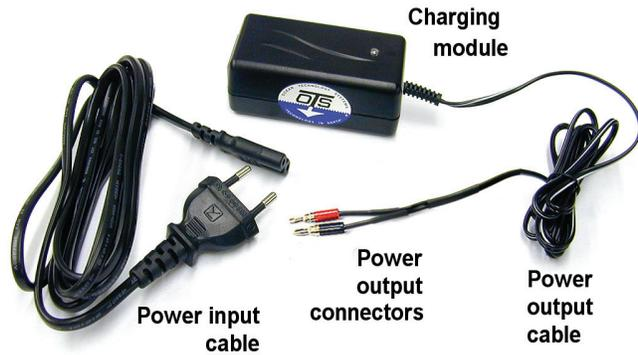

Figure 1: Charging unit and power input cord
The RCS-13 charger consists of the charging module and power output cord as one unit (Fig. 1). The power output connectors are mini banana connectors. A power input cord is provided with your choice of plugs depending on the region of the world where the charger will be used.
1. Connect the *power output connectors* (mini banana plugs) (Fig. 1) to the communications unit *as described on the back of this instruction sheet*.